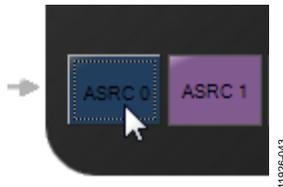
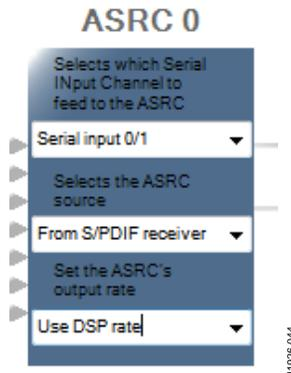

Figure 41. ASRC 0 Control Button
Figure 42. Configuring the ASRC 0 Routing Matrix Registers
- 4. Configure the S/PDIF receiver signal routing by clicking **ASRC 0** (see Figure 41) and then configuring ASRC 0 using the drop-down menus until it matches Figure 42. (This routes the S/PDIF receiver signal through an asynchronous sample rate converter (ASRC) before it is accessed in the DSP core. Routing the signal in this way is necessary because the S/PDIF source is not synchronous to the ADAU1452.)
Because the left and right signals of the S/PDIF receiver are passing through ASRC 0, the input to the DSP program is the **Asrc Input** block in SigmaStudio. This naming convention is such that all blocks in SigmaStudio are named from the perspective of the DSP core. Therefore, the **Asrc Input** block in SigmaStudio represents the input to the DSP from the ASRC outputs. The inputs to the ASRCs themselves are defined in the register map (see Figure 42).